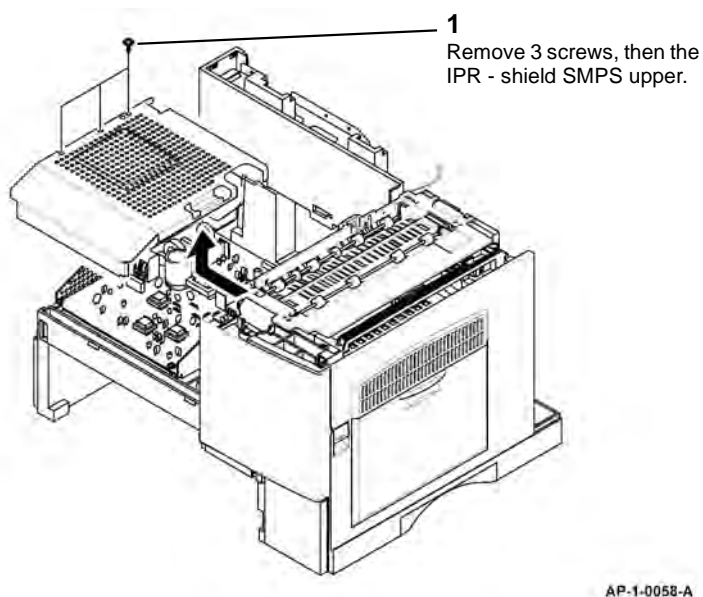

Figure 1 IPR - shield SMPS upper removal
2. Remove the IPR - shield SMPS upper, Figure 1.